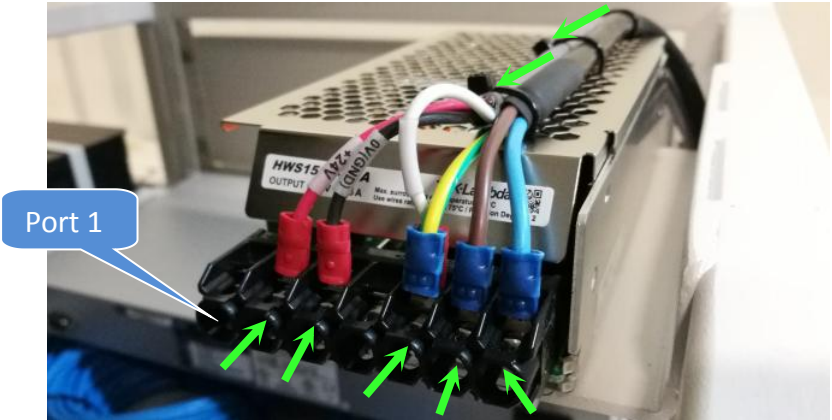

Figure 7 Wire connection
10. Connect the cable as Figure 7 by refer to Table 1. Perform minor Cable Dressing.